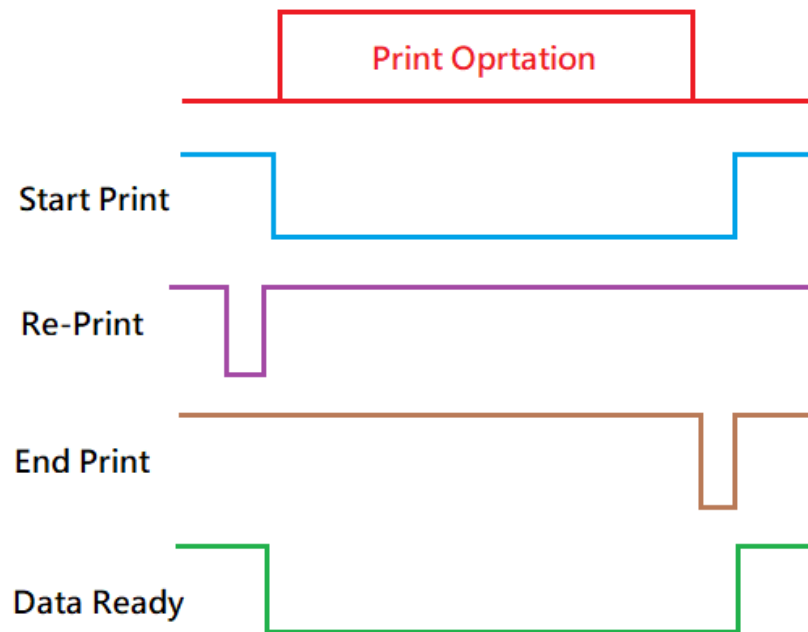

Figure 7
- d. Timing chart is as Figure 7.